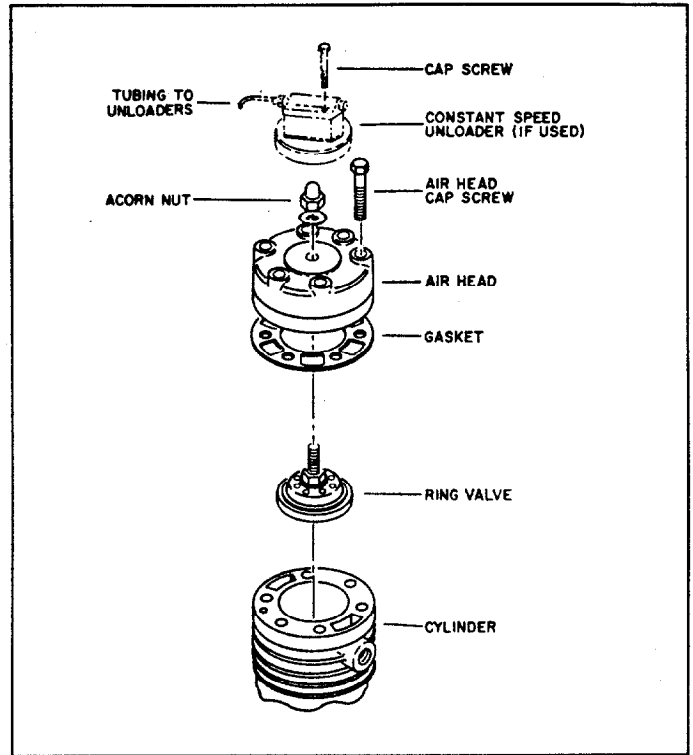

Figure 6-1. Concentric ring valve and air head assembly.
1. Refer to Figure 6-1. If the air heads are equipped with unloaders, disconnect the tubing to the unloaders, remove the unloader capscrews and lift the unloaders off the air head.
2. Loosen the valve acorn nuts as shown in Figure 6-1, then take out the air head capscrews and remove the air head from the cylinder.